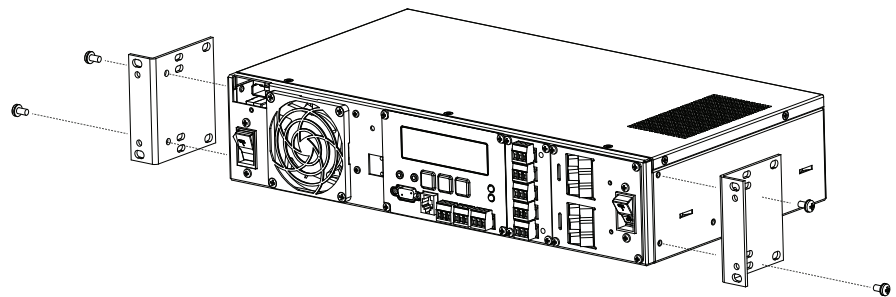

Figure 6.13 - Attaching the mounting ears to the UPS
1. Attach the mounting ears to the side panels of the UPS module with the narrow side facing the same direction as the front panel of the UPS module. (See Figure 6.13)